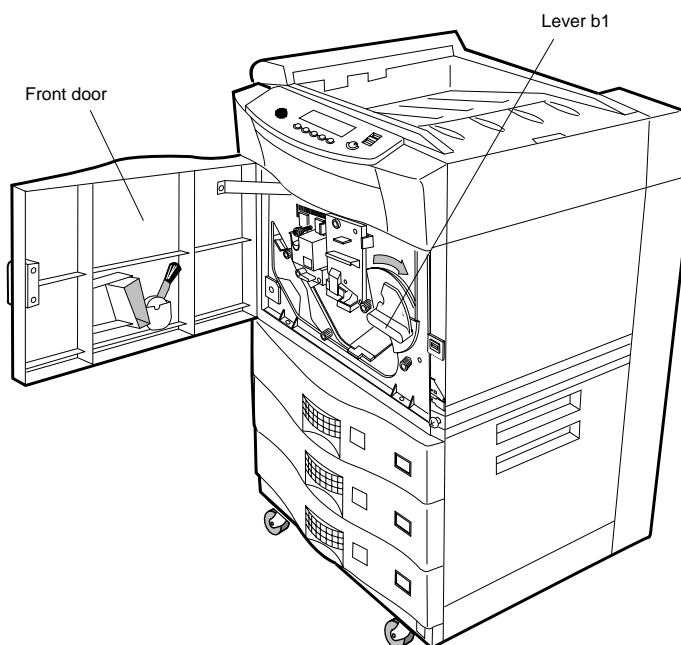

Figure 2-45 Lever b1
2. Turn Lever b1 to the right to the OPEN position (see Figure 2-45).